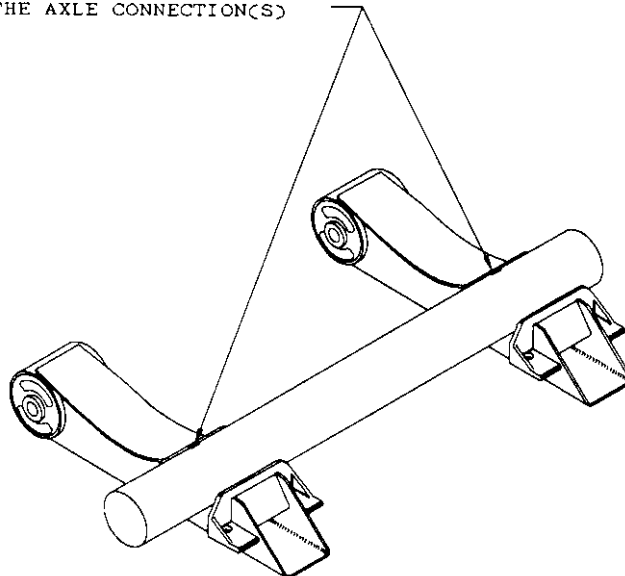

Figure 8
6. Using a large clamping device(s) secure the centred axle onto the positioned beams and tack weld in place as shown Figure 8. U bolts are installed after the axle seat and beam assembly have been welded complete and allowed to cool.